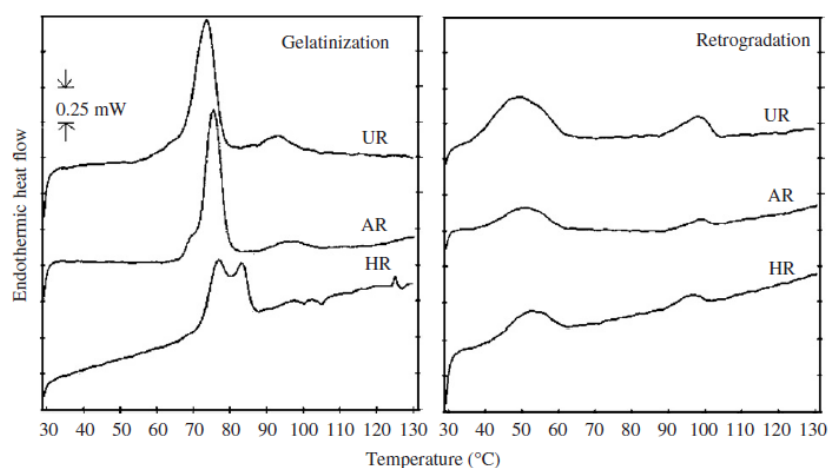

Fig. 1. DSC thermograms of UR (untreated rice starch), AR (annealed rice starch), and HR (heat-moisture treated rice starch).
Fig. 1. Scheme of the pulsed fluidized bed used for green banana flour agglomeration: (a) Blower (A), Valve (B), Heater (C), PID controller (D), Air deflector (E), Rotameter (F), Temperature sensor (G), Air distributor (H), Rotating spherical valve (I), Bed chamber (J), Nozzle (K), Cyclone (L); (b) the agglomeration process in detail (adapted from Dacanal & Menegalli, 2010).